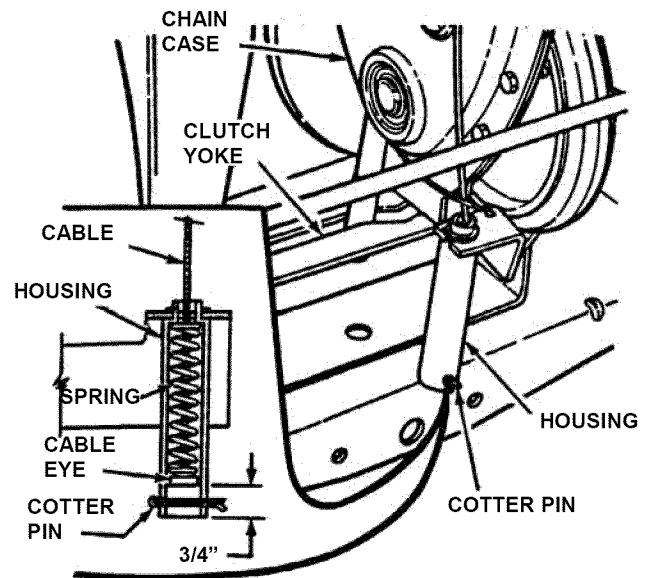

FIGURE 4.9
5. Measure the distance between end of clutch/brake cable and bottom of housing. Measurement should be $3/4$ ". See inset of Figure 4.9.
7. Adjust cable up or down using the jam-nuts to obtain a distance of $3/4$ " between end of clutch/brake cable (adjustment shown in inset of Figure 4.9) and bottom of housing. See Figure 4.9.
5. Move transmission shift lever to the neutral (N) position.
6. Rotate clutch yoke (clutch yoke shown in Figure 4.9) out with your hand and work belt between drive disc and rubber driven disc.